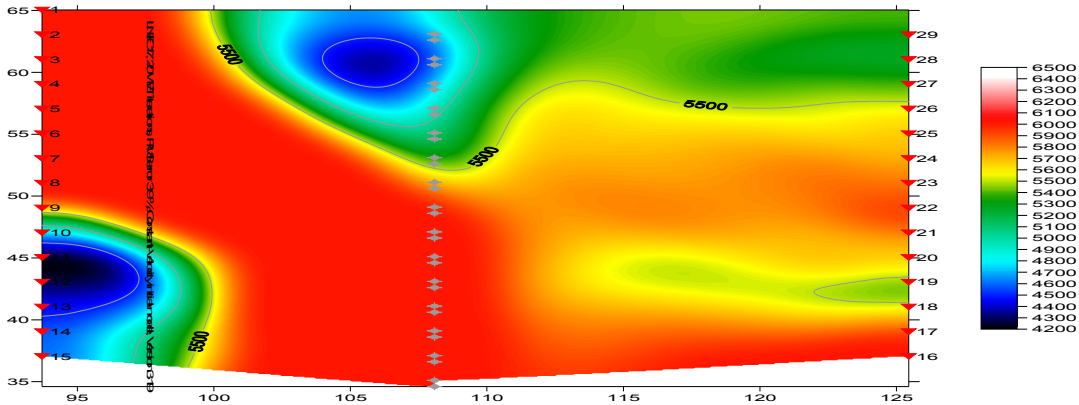

Fig. 2 : WET wavepath width 2%, smoothing filter : half width 12, half height 12. 20 WET iterations.
Fig. 3 : WET wavepath coverage plot, obtained with WET tomogram shown in Fig. 2. Note low coverage at bottom-left corner, corresponding to low-velocity anomaly in Fig. 2. Note focusing / bundling of first break energy at central receivers, due to overlap of wave paths.
- click *button Start tomography processing*, to redo WET. Confirm prompts, to obtain Fig. 2 and Fig. 3.